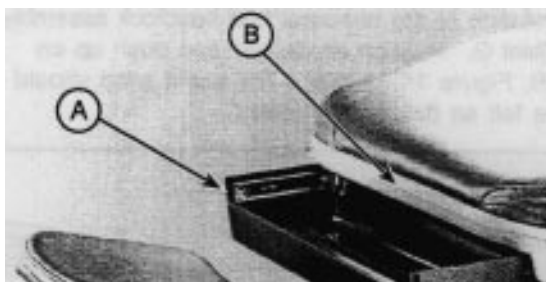

FIGURE 12
Storage for two (2) standard 18 inch wide by 3 inch diameter paper rolls is provided under the upper portion of the back section, as shown in Figure 12. Access to the paper roll storage area is accomplished by sliding the holder A, Figure 12, out from under the back section toward the headlock. It is recommended to have the back section in a horizontal position. Insert the paper roll(s), drape the end of the roll nearest the headlock out of the holder, and push the holder under the back section. Remove one end of the paper tear strap B, Figure 12, and then pull the paper over the end of the back section onto the upholstery. Replace the paper tear strap to help control the paper. Pull the paper over the upholstered area of the table.